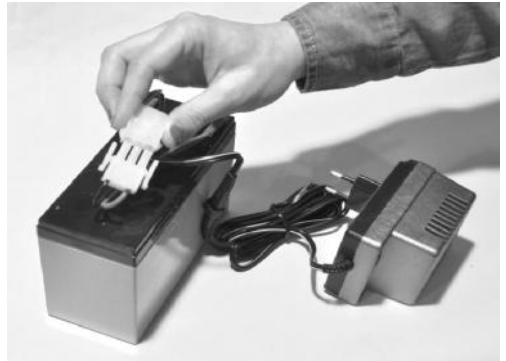

Figure 38—Connect the battery conector to the charger.
- Connect the battery connector to the charger, as shown in **Figure 38**.